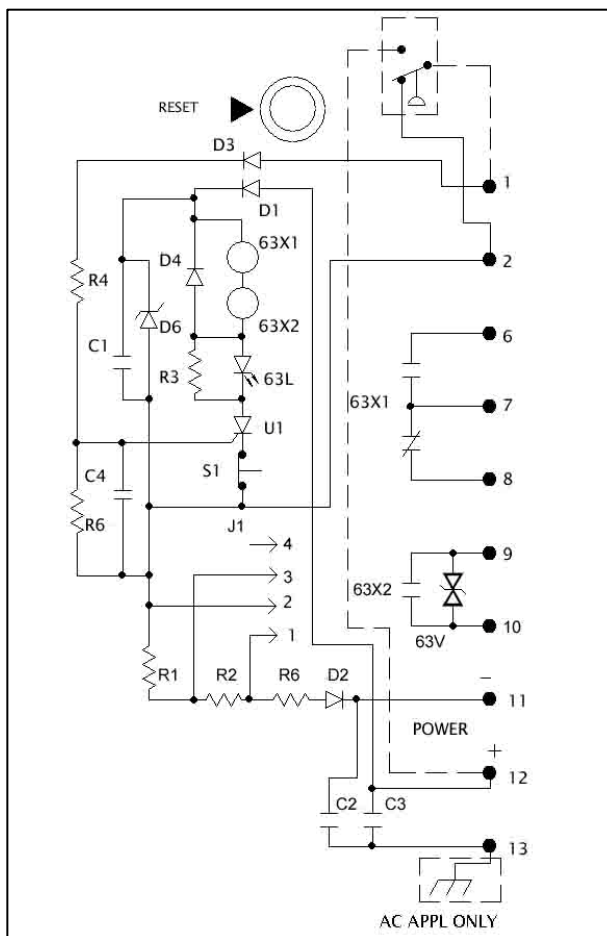

Figure 2: Typical Seal-in Relay Circuit
In a typical application, a Seal-in relay with reset pushbutton and associated circuitry is mounted on a panel in the transformer control cabinet; it is a fast acting, high impedance relay with alarm contacts. The Seal-in relay is energized by the Sudden Pressure Relay micro switch; its purpose is to close alarm and/or trip circuits and seal itself closed until manually reset by the reset pushbutton. ABB does not manufacture the Seal-in relay panel. ABB can furnish a Seal-in relay panel which is manufactured by others. A typical circuit for a Seal-in relay is shown in Figure 2. NOTE: There are many variations of this circuit. Always check the transformer Wiring Diagram.
The typical Seal-in relay circuit (Figure 2) includes a Voltrap across trip contacts 9 - 10 of the Seal-in relay. The Voltrap acts like a non-linear resistance which will discharge induced voltages before they become high enough to flashover the trip contacts. Most users shield the long alarm and trip leads between transformer and station house. Where shielding may be inadequate, the Voltrap provides backup protection. The Voltrap must be disconnected if trip circuit voltage is higher than 270 volts.
6. The typical Seal-in relay circuit (See Figure 2) protects against flashover of the Sudden Pressure Relay micro switch or Seal-in relay contacts due to severe electrical disturbances. When an operation occurs, the Seal-in relay will keep the alarm and trip circuits closed until the manual reset switch is opened. It is necessary to open this switch for a fraction of a second only to interrupt the circuit and release the Seal-in relay. Opening and closing the reset switch will restore the alarm and trip circuits to their original condition, ready for detection of further sudden pressure rises in the transformer.